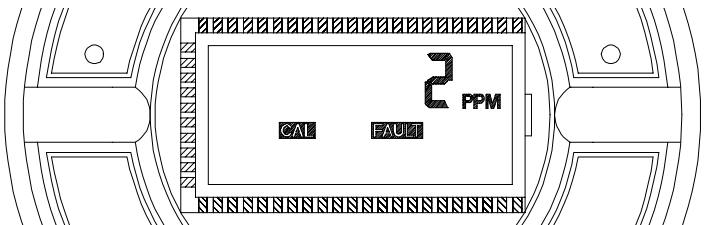

Figure 5. Calibration Fault Flag
- Displays **CAL FAULT** Flag (FIGURE 5) to indicate:
- Displays **CAL FAULT** Flag (see FIGURE 5) to indicate: